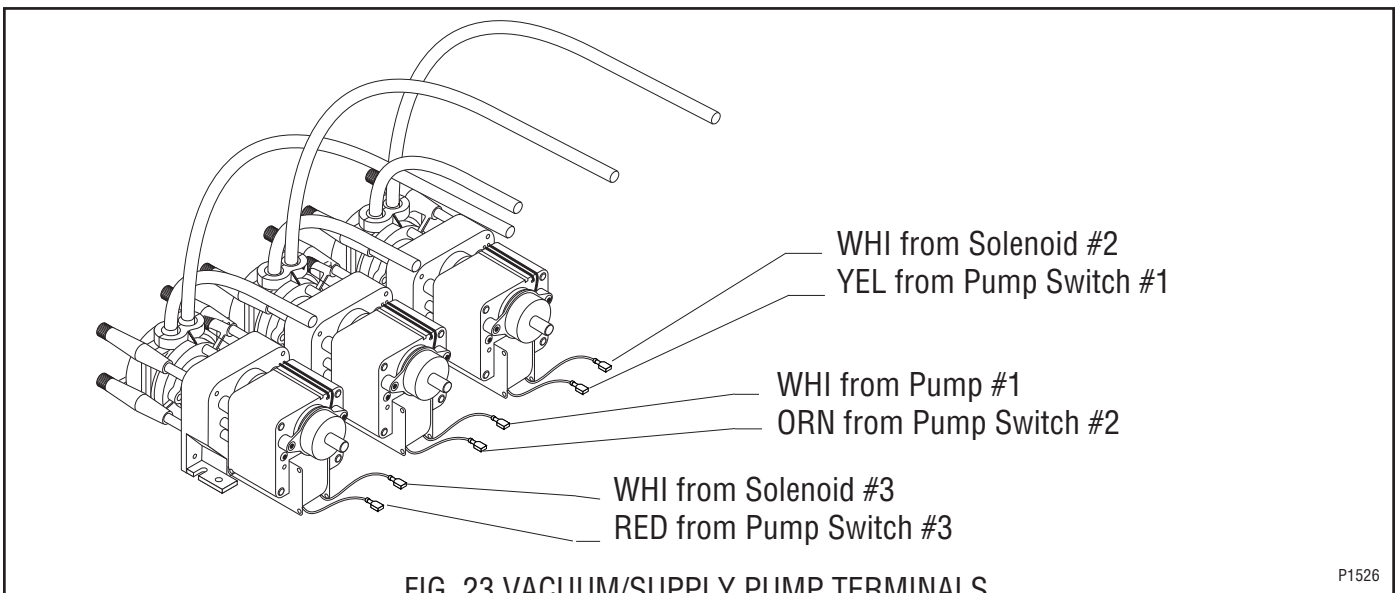

FIG. 23 VACUUM/SUPPLY PUMP TERMINALS
7. Reconnect the pump motor leads. Refer to Fig. 23 to reconnect the wires.